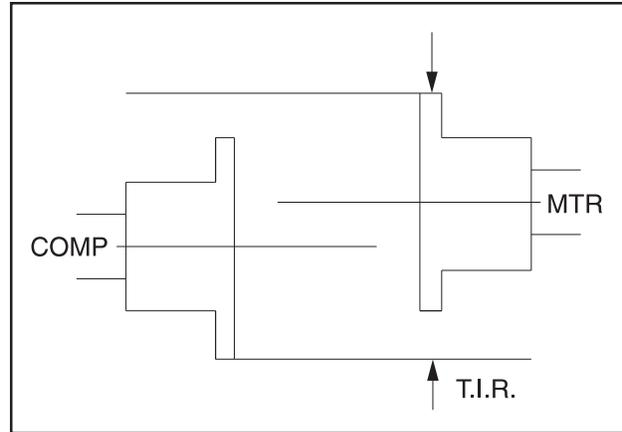
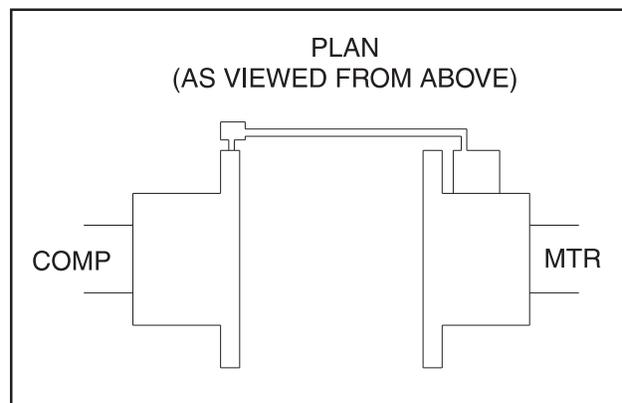

Figure 5 - Parallel Misalignment
Figure 6 - Dial Indicator Attached (at 9 O'clock)
6. To check parallel alignment, as shown in Figure 5, reposition dial indicator so the stem is in contact with the rim of the compressor hub, as shown in Figure 6.
Set indicator at zero and rotate both coupling hubs together 180° (9 o'clock position), as shown in Figure 6.